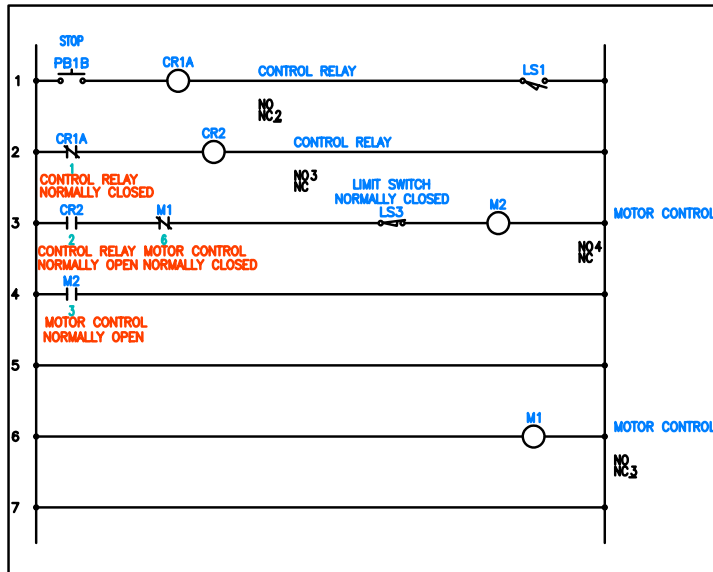

Figure 6-47 Components inserted in the ladder
24. Similarly, insert **Limit Switch, NO** in the rung 1. To do so, choose the **Limit Switch, NO** from the **JIC: Limit Switches** icon of the **Insert Component** dialog box; you are prompted to specify the insertion point. Enter **18,18** at the Command prompt and press ENTER; the **Insert / Edit Component** dialog box is displayed. By default, LS1 is displayed in the edit box of the **Component Tag** area in this dialog box. Next, choose the **OK** button; LS1 is inserted into rung 1 of drawing. Figure 6-47 shows the ladder with components inserted in it.
25. Choose the **Move/Show Attribute** tool from **Schematic > Edit Components > Modify Attributes** drop-down; you are prompted to select the object. Select the **Motor Control** attribute of the **Motor Starter Coil** and press ENTER; you are prompted to specify the base point. Specify the base point at the left corner of the attribute and move the attribute, as shown in Figure 6-47.